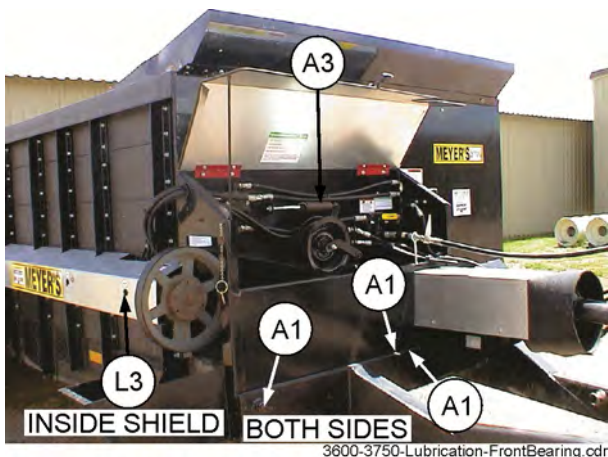

FIGURE 12
All roller chain drives are automatically tensioned with spring loaded tensioners that are adjustable with a threaded eye bolt. Figures 12 and 13. When slack appears tighten the eye bolt so the load on the roller is approximately 25-30#, this can be checked with a fish scale or other means. When no more adjustment is available, the chain should have enough slack in it to remove one full link.
- (L1) Maintain oil level in apron and beater drive gear reducers at the check level plug. Figure 12.
- (L2) Maintain oil level in apron drive reducer at check level plug, accessible at left, rear side. When required, refill with SAE 85-140 Moly Fortified gear lube or Synthetic SAE 75-90 gear lube. Figure 12.
(L5) Grease the bearings at both ends of the upper beater and the lower beater (there are two bearings on the drive end of the lower beater, 5 places total) one pump every 8 hours. Figures 12 and 13.
(L6) Grease the apron drive shafts, both sides of the spreader via the grease lines, 5 pumps every 8 hours. Figure 12.
- (L7) Grease the axle at both sides of the spreader via the grease lines, 10 pumps every 8 hours. Figure 12.